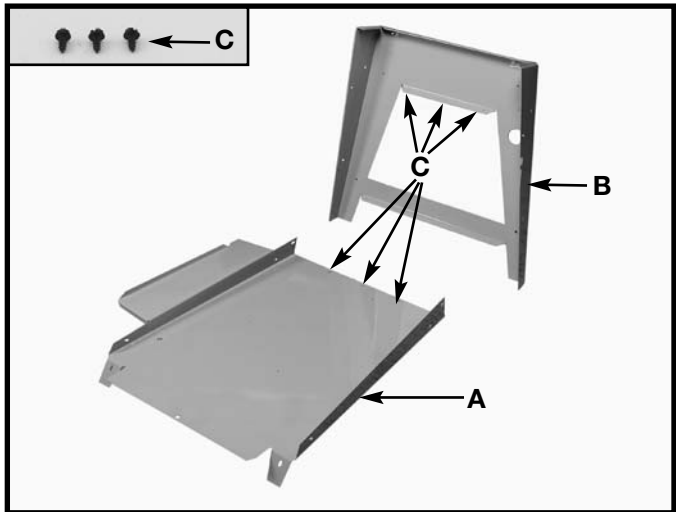

Fig. 4
1. Assemble the dust chute and support panel (A) Fig. 4, to the inside of the front stand panel (B) with three #10 x 1/2" sheet metal screws (C).